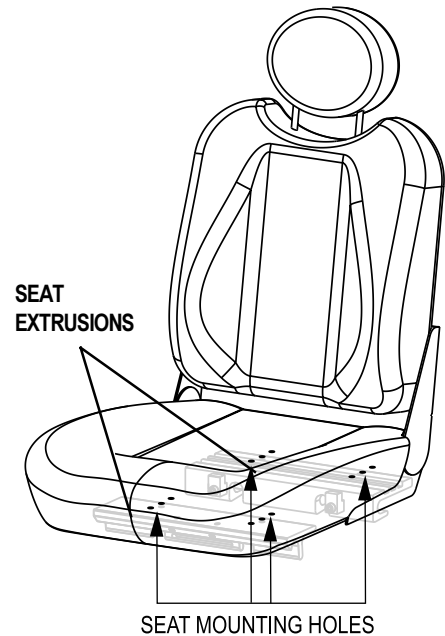

Figure 18. Seat Mounting Holes
3. Remove both extrusions from the bottom of the seat. See figure 18.
4. Reposition the extrusions on a different set of mounting holes. See figure 18. You must move both extrusions the same number of holes either forward or backward.